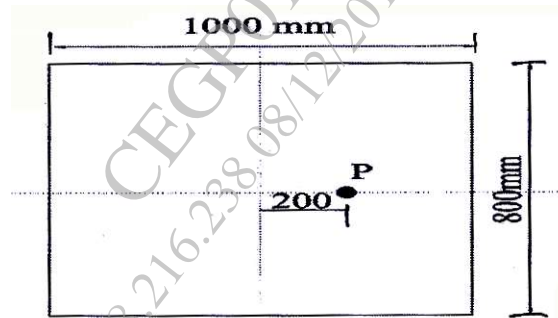

Fig. 8.1
- (b) A column support load of 400 kN is shown in figure. Find the stresses at the corner of the column at its base. (Refer in figure 8.1) [6]